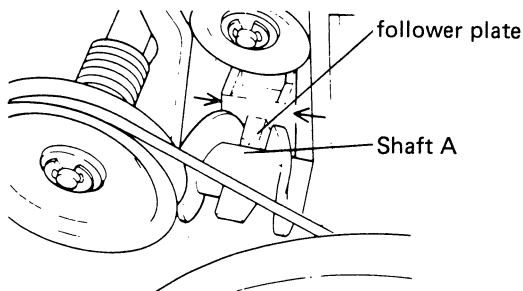

Fig. 5-4 Auto-stop Operation 1
5. When the tape is stopped, the projection on plate A is brought to the center by the depression in the cam. (see Fig. 5-4).